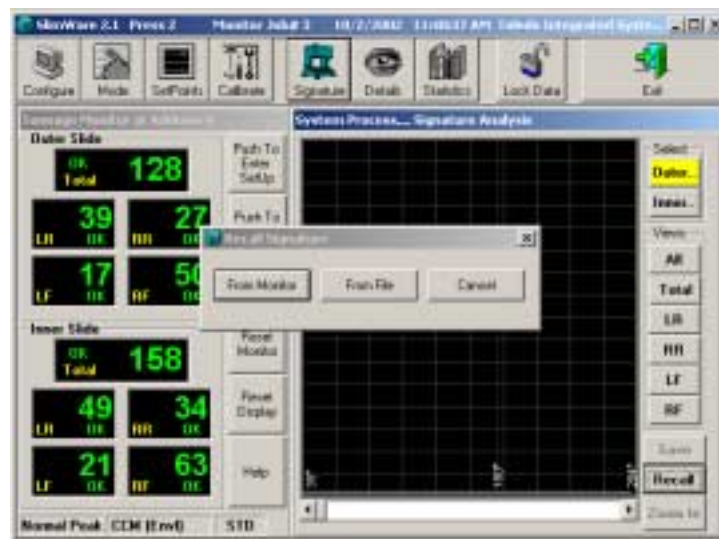

Figure 10.8 - Recall Signature Prompt Box (Select From File)
- Select the Recall button on the System Process window. The **Recall Signature** prompt box will be displayed as shown in Figure 10.8. Click the button **From File**.